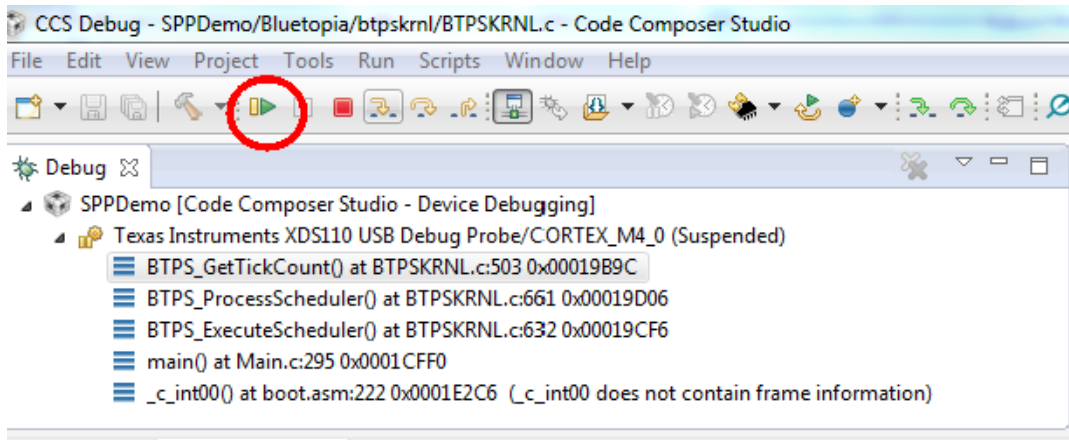

Figure 9. Play and Resume Button
1. Press the play and resume button on the CCS toolbar (see Figure 9).